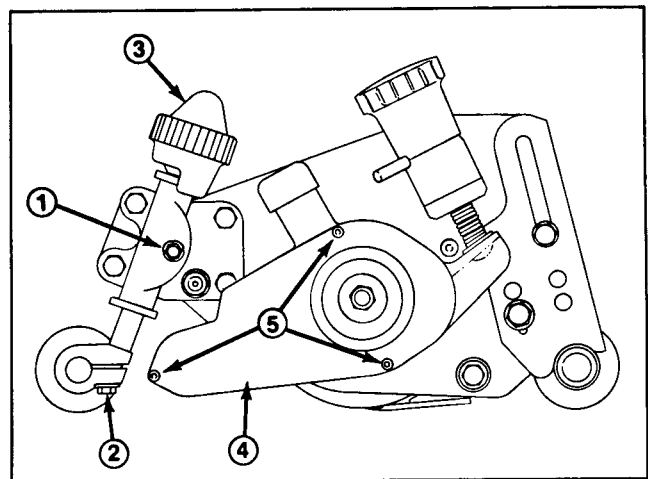

Figure 38
A. Loosen locknuts securing height of cut adjusting rods at both ends of cutting unit and roller shaft clamp bolts (Fig. 38).